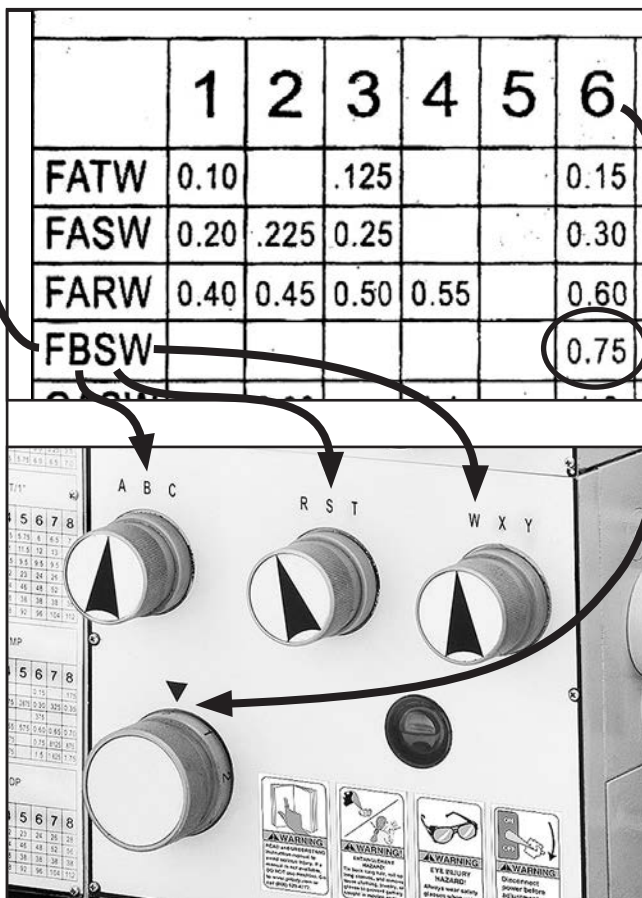

Figure 55. Thread control settings for 0.75 pitch.
- Move the threading dials to the combination of **FBSW6**, as shown in **Figure 55**.